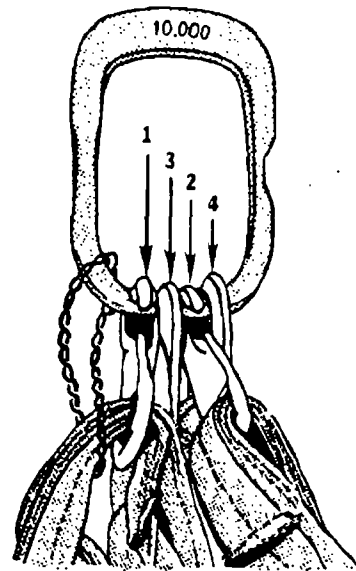

Figure 7-7. Legs Hooked in Sequence
Step 4 - Position one person on top of the load. Connect the legs to the apex fitting in the following sequence: 1, 3, 2, and 4, to provide equal lift on all legs (Figure 7-7). Hooks do not have to face in the same direction.